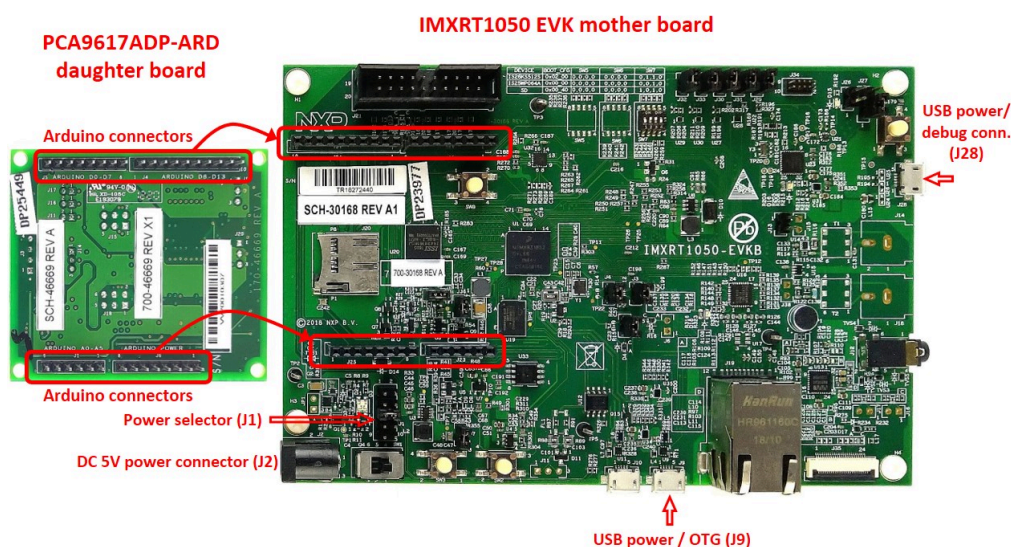

Figure 5. PCA9617ADP-ARD daughterboard and IMXRT1050 EVK board, before starting
Figure 5 shows the required hardware for operation of the PCA9617ADP-ARD daughterboard with IMXRT1050 EVK. The following items are necessary:
From J1 on the EVK board (see Figure 5) the user can select the power configuration for the motherboard. For further details, see the *i.MX RT1050 Processor Reference Manual* i.MX RT1050 Processor Reference Manual.
2. Insert the PCA9617ADP-ARD daughterboard on the Arduino connector of the EVK (see Figure 5).
Figure 5 shows the boards during the operation.